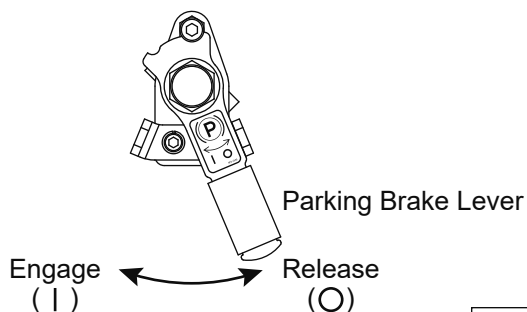

Fig. 6
- Check the parking brake to release and engage certainly. (Fig. 6)
- Turning the lever to the right, release (O) the parking brake.